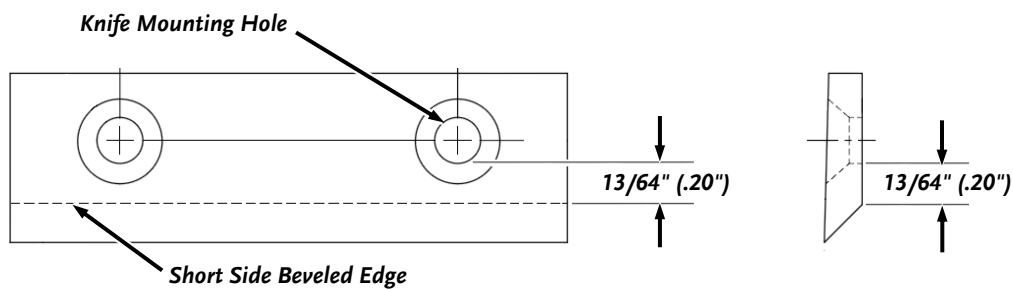

Figure 29: Sharpened Knife
- Once this measurement is below  $7/32$ " (**Figure 29**), or if you are unable to remove dents or gouges with these guidelines, replace the Knife.